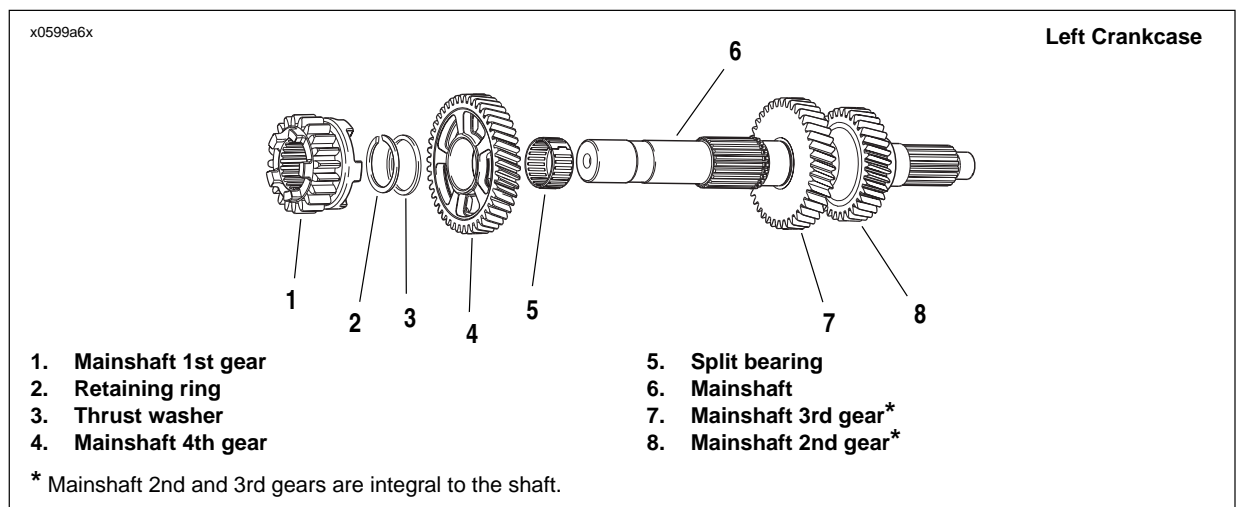

Figure 6-62. Transmission Mainshaft Assembly Once Removed from Left Crankcase/Disassembly
1. See Figure 6-62. Remove 1st gear (1).
2. Use RETAINING RING PLIERS (Part No. J-5586-A) to expand and remove retaining ring (2). Discard retaining ring.
3. Slide thrust washer (3) off end of mainshaft.
4. Remove 4th gear (4) and split bearing (5). Discard bearing.